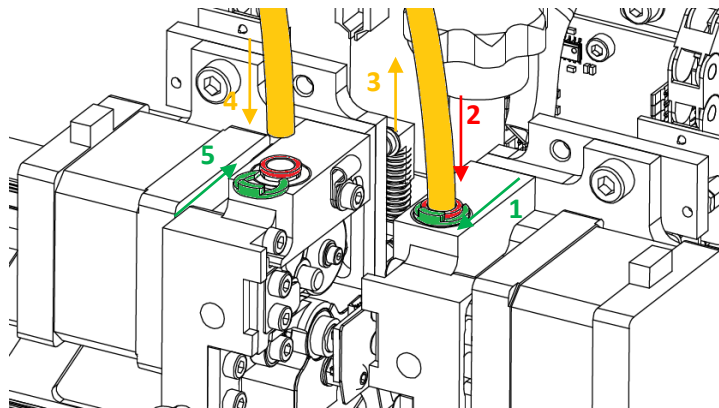

Fig. 83 Removing and installing the material feeding system
9. Remove the C-shaped lock (Fig. 83, green, step 1) from the connector.
10. Press the connector lock (Fig. 83, red, step 2) and simultaneously remove the material feeding system from the connector by pulling it up (Fig. 83, yellow, step 3). Similarly, remove the material feeding system from the other extruder.
18. Slide the T0 material feeding system back into the connector opening until resistance is felt – about 2 cm (Fig. 83, step 4, yellow), and then, slide the C-shaped lock in (Fig. 83, step 5, green).